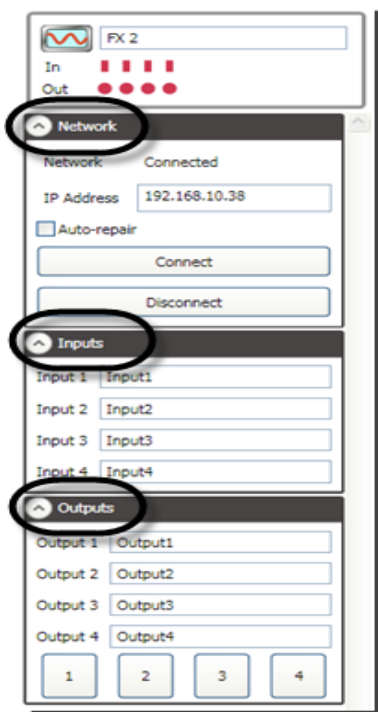

Figure 96
2. Once you have selected an FX in the **Cue Grid**, you can begin editing its parameters in the **FX Editing Pane**, the scrolling window on the right side of the SpikeMark screen that contains sections of parameters grouped by function. You can collapse or expand these sections to show or hide the information (Figure 96).